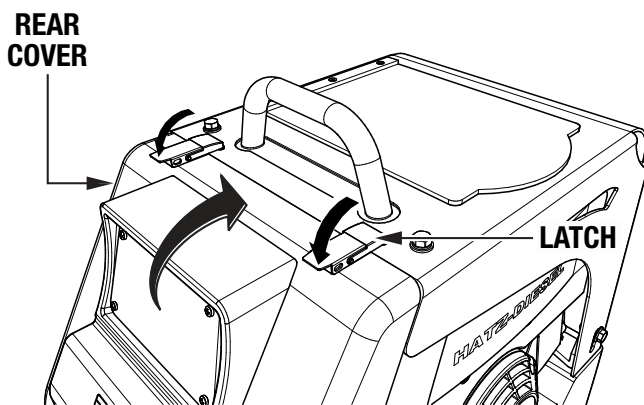

Figure 52. Close Rear Cover
4. Close the rear cover and secure it with the two latches (Figure 52).